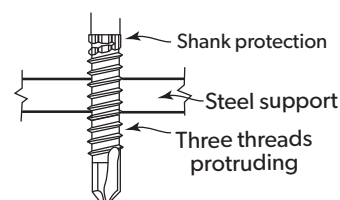

Figure 3.8.1
- INTO METAL: The screw manufacturer's recommendations for screw penetration should be complied with. Generally there should be at least one full thread protruding past the support you are fixing. If there are three (3) threads visible (even partial threads) then the penetration requirements are met. Where rib fixing is done, then the 'shank protection' must not reach the support (Figure 3.8.1);